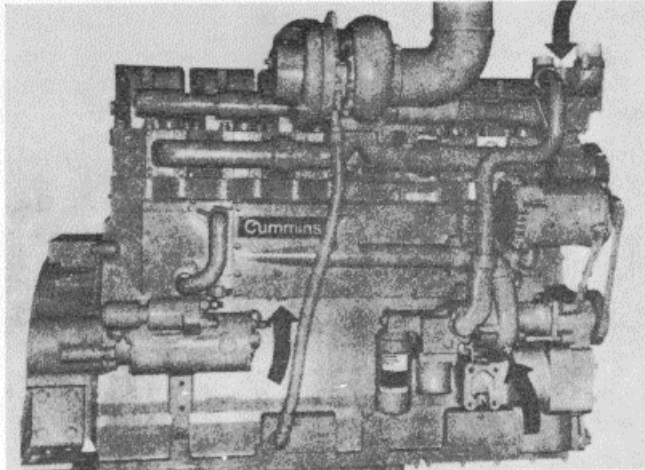

Figure 16B-2. Cooling System Drain Points
2. Remove the drain plugs in oil pan sump(1), Figure 16B-3 and pan adapter cover plate (2).